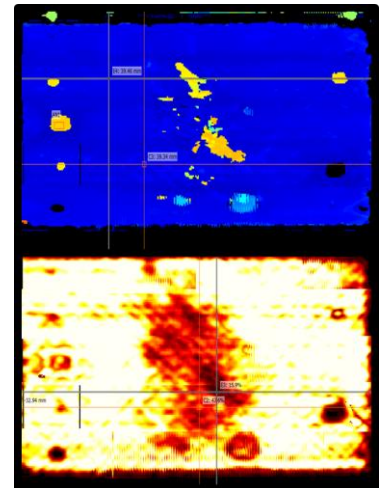

Figure 5: The top image shows a C-scan time of flight and bottom image a C-scan amplitude.
C-Scans nowadays are usually generated from data gathered using multielement linear array transducer and scan. These concepts are combined into one linear scan solution (L-scan), or sometimes referred to as an electronic scan (E-scan). Referring to the figure 5, the L-scan uses a group of elements to pulse a single straight beam (1). Then it